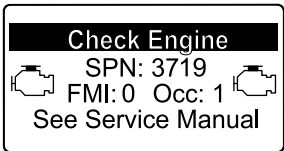

Figure 40
- Engine warning SPN 3719, FMI: 0 (Figure 40)